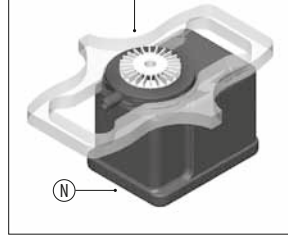

fig 6
- Connect all the above by inserting the shaft (L) in the impeller opening (I) –fig.6.